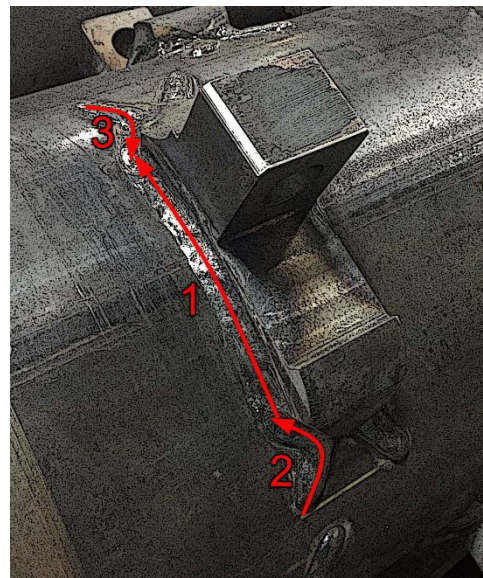

Figure 27
5. Follow the welding pattern illustrated in Figure 27.
NOTE: Overlap weld #2 and #3 over weld #1 in Figure 27.